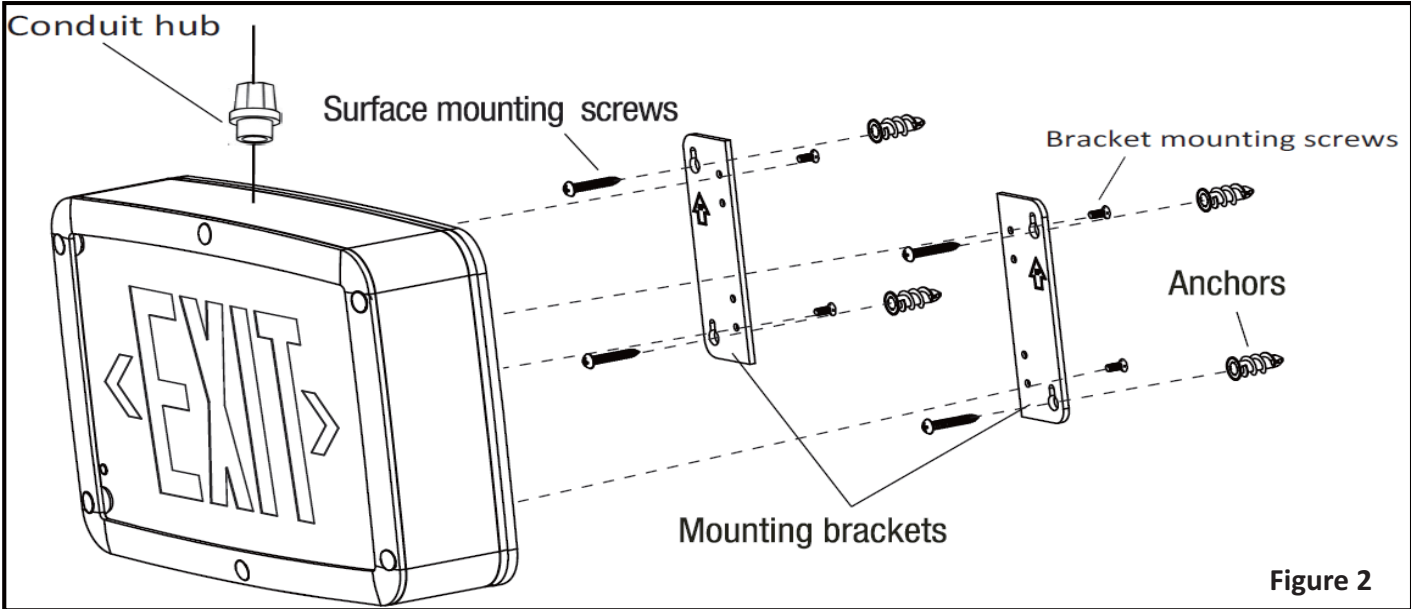

Figure 2
2. Mount the (2) surface mounting brackets provided onto the backplate and secure using the four #7-21x3/8" Flat head screws provided (Figure 2).
3. Place the housing on the required surface. Drill (4) mounting holes on the wall, using the mounting bracket holes as a drilling template. Tap in using a mallet, the four screw anchors into the holes (Figure 2).
4. Remove the (6) plastic caps, (6) screws and (12) O-rings from the EXIT lens and set aside.
9. Reinstall the lens and EXIT panel assembly using the (6) plastic caps, (6) screws and (12) O-rings previously removed (under step 4) and set aside. Tighten the screws enough to compress the O-rings to ensure a good sealed joint. Be careful to not over-tighten, as that could result in damaging the lens and affect proper sealing of the unit.